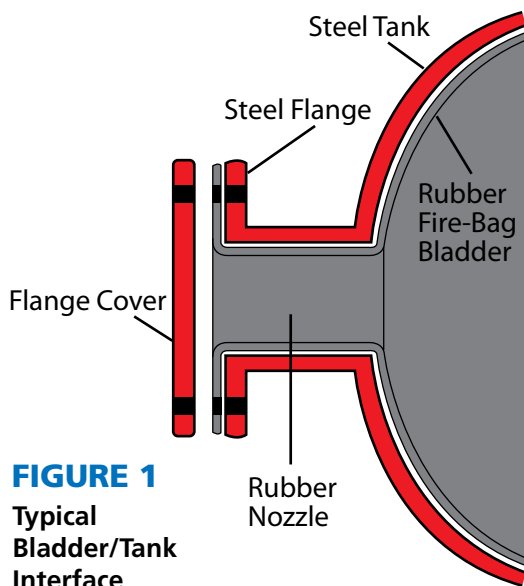

FIGURE 1
3. Disconnect all in/out plumbing from all tank flanges. Remove all tank flange bolting and tank flange covers. (Fig. 1)